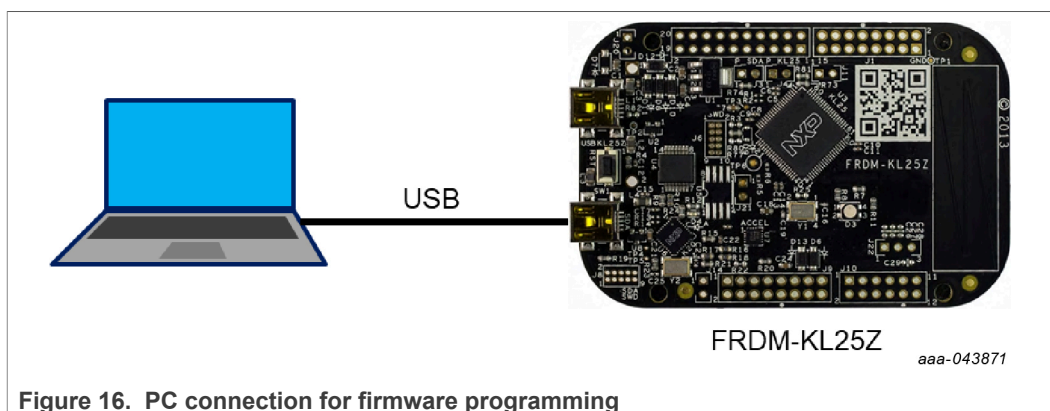

Figure 16. PC connection for firmware programming
1. Connect the board to the PC with a USB cable (Figure 16), using the 'SDA' USB cable jack